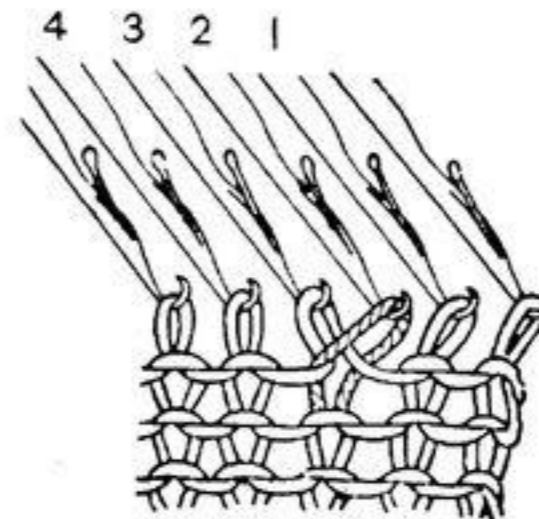

Fig. 37-2
- (c) With the single eye Transfer Tool, pick up a loop from the next stitch one row below and place it in the empty third needle hook. (Fig. 37-2)